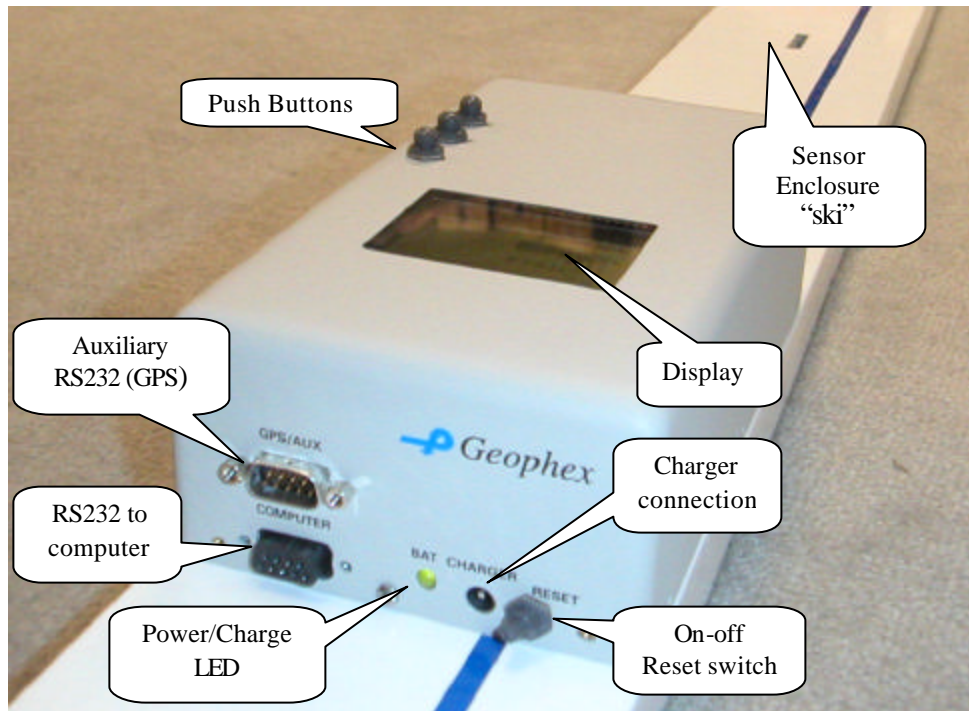

Figure 1. Photo of a GEM-2 console
**Reset Switch** An on-off switch is located on the front of the console as shown in Figure 1. On power up, the processor boots and loads its program from the internal flash card.